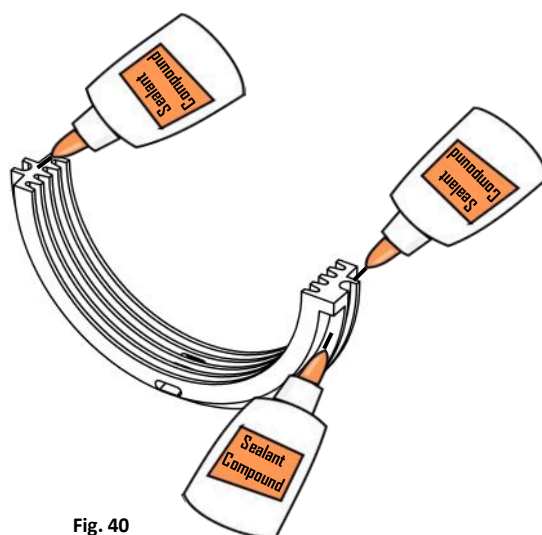

Fig. 40
- the surface of the split line and the exterior of the spring guide of the labyrinth seal. (Fig. 40)